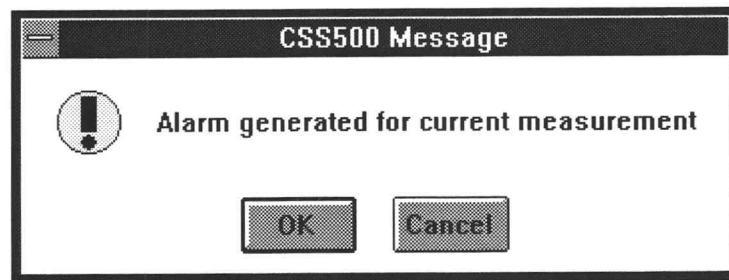

Figure 5-14. The message box displayed when a measurement result falls into an Alarm range.
3. If necessary, tune the preselector to the channel, then choose the OK command button to continue. (Choose the Cancel command button to stop making measurements and return to the spreadsheet.) If any of your measurement results fall into the Alarm range, Figure 5-14 is displayed: